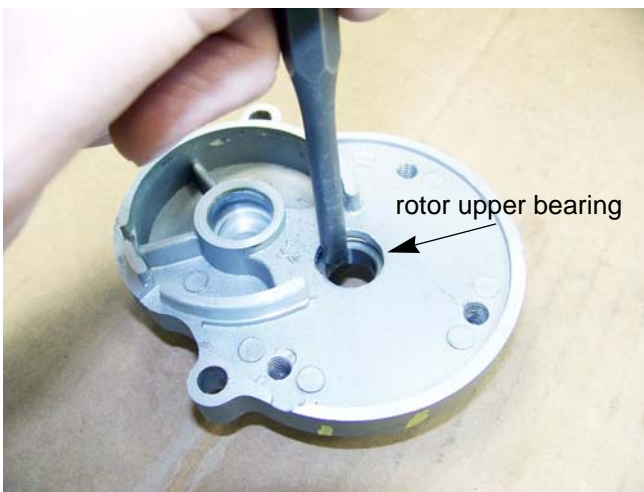

Figure 6.17
23. Drive the rotor upper bearing out of the clutch/pinion cover using a flat tipped punch. See Figure 6.17.